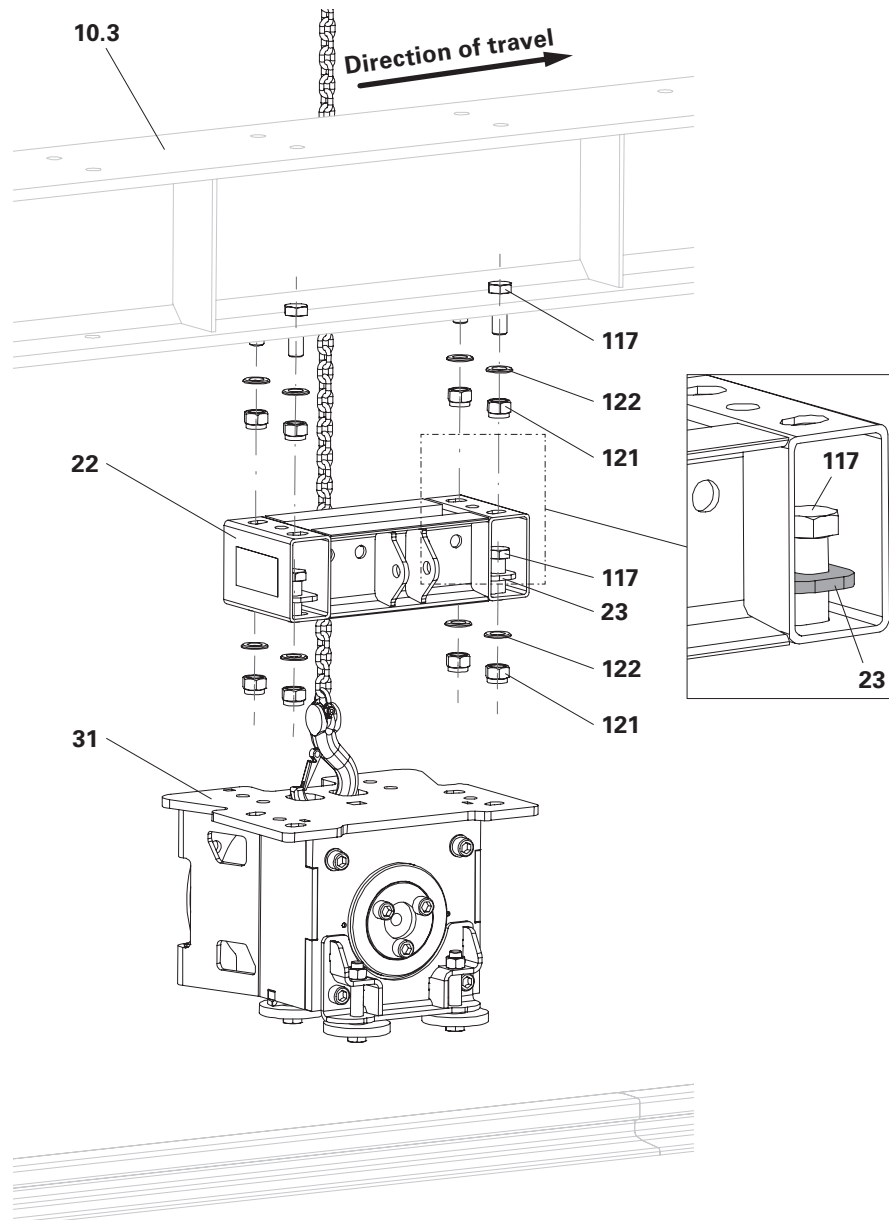

Fig. B4.09
5. Remove the crane lifting gear. (Fig. B4.09)